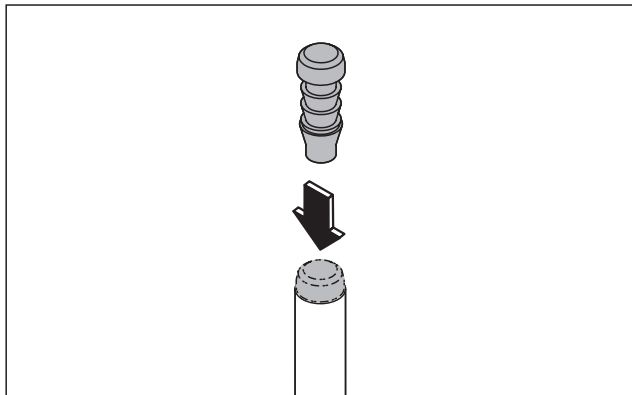

Fig. 44 Insert plastic plug
6. Completely insert the plastic plug into the upper espagnolette bolt (Fig. 44).